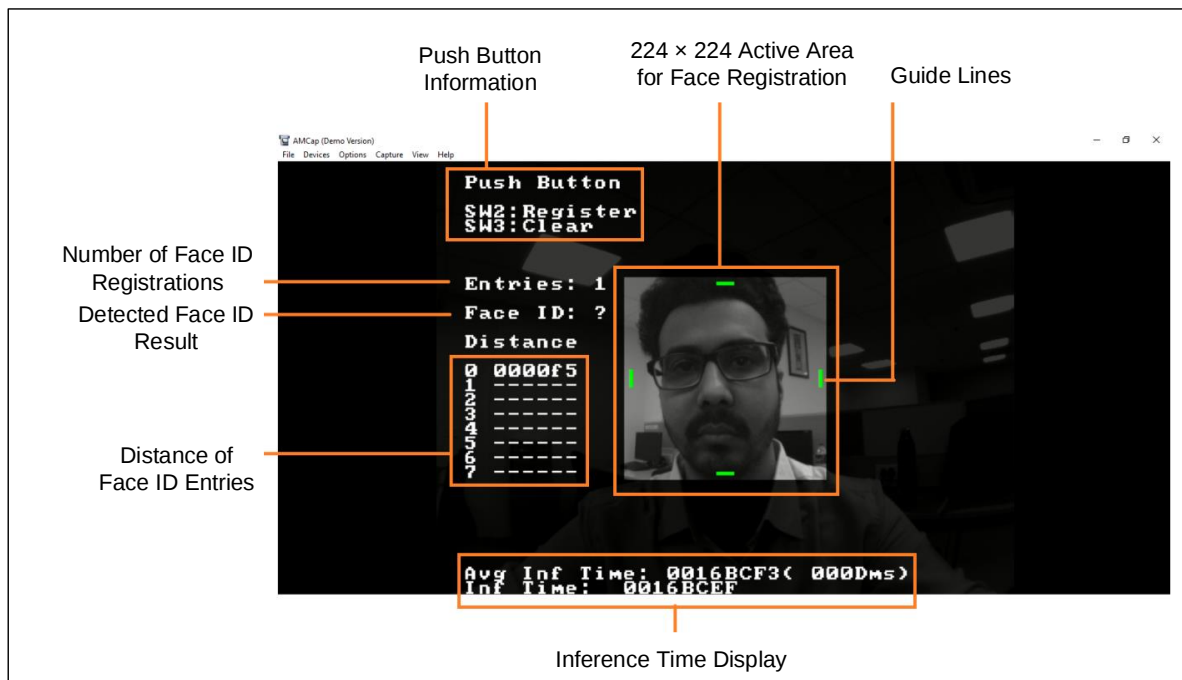

Figure 5.1. Demo Camera Image
6. The camera image with green guide lines enabled is displayed in the output Figure 5.1.
If Inference time display is disabled, and .bit file is generated using *face_id_display.mem*. The text and values of Inference Time Display are not displayed in the output. The output shown in Figure 5.1 is with the .bit file having Inference time enabled using the *face_id_display_INF.mem* file.